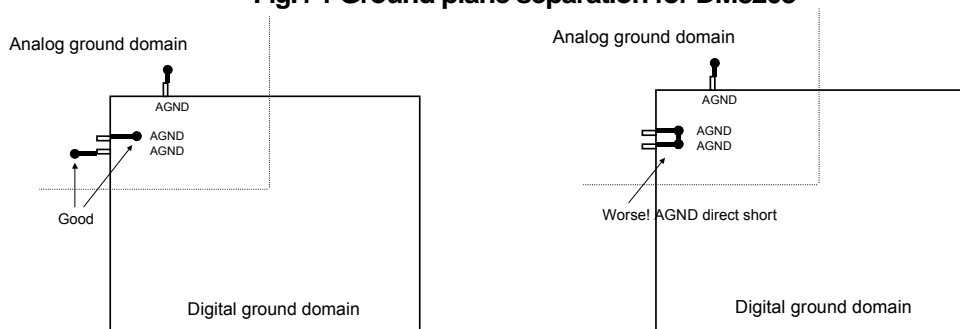

Fig.4-2 All AGND pins must be directly connected to analog ground
- All AGND pins could not directly short each other (see **Fig.4-2**). They must be directly connected to the analog ground domain.